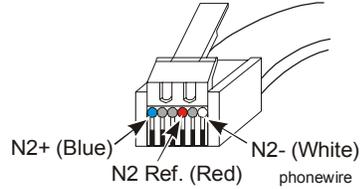

Figure 9: N2 Cable 6-Pin RJ11 Network Phone Plug
Figure 9 shows the 6-pin phone plug end of the N2 cable used by the CVTPRO converter for N2 Bus communication. For Zone Bus communication, always use standard Zone Bus cables.
4. Connect the 6-pin RJ11 phone plug on the opposite end of the CVTPRO N2 cable to the CVTPRO converter. (See Figure 9, Figure 10, and Figure 11.)
3. Connect the 6-pin RJ11 phone plug on the opposite end of the CVTPRO N2 cable to the CVTPRO converter. (See Figure 9.)
4. Connect the 6-pin RJ11 phone plug on the opposite end of the CVTPRO N2 cable to the CVTPRO converter. (See Figure 9, and Figure 11.)